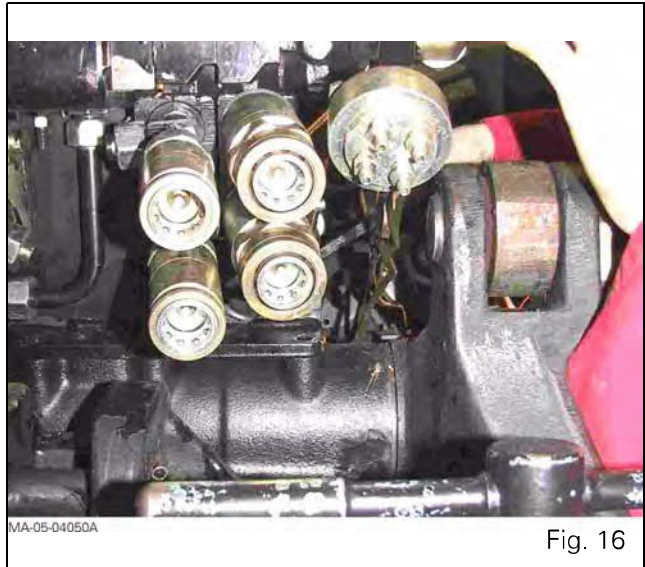

Fig. 16
16. Remove the bleeding system from the spool valve block. (Fig. 16)